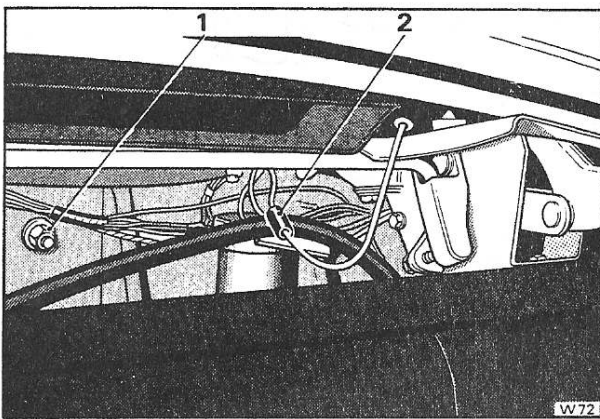

Fig. S149 Position of the rear window demister lead connections
7. Disconnect the two demister leads at their Lucar connections (see Fig. S149).
8. Remove the nut and large washer securing each side of the squab to the body (see Fig. S149); remove the squab.